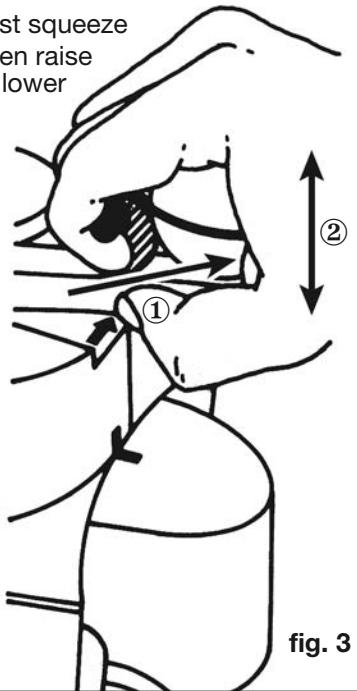
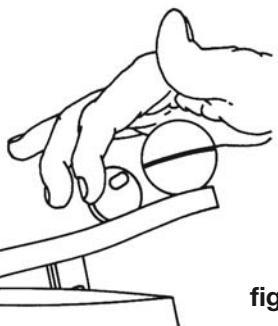
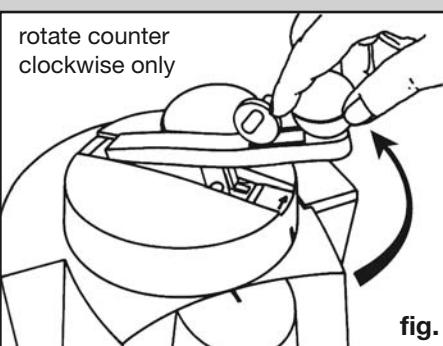

fig. 3
fig. 4
fig. 6
- When unpacking your Capresso "Ultima" the lever (fig. 1; #3) is in the locked position (see fig. 2). To unlock and raise the lever first squeeze the handle bar towards the knob (see fig. 3), then lift the lever upwards and release the handle bar (see fig. 4) Now you can rotate the carousel counter clockwise (see fig. 6).
- b. The carousel only turns counter clock wise (see fig. 6)
- d. To move the lever up or down you must always first squeeze and hold the handle bar then pull the lever up or push it down (see fig. 7). Then release the handle bar. The best way to work the handle bar is to place the palm of your hand on top of the knob and then squeeze the handle bar with two fingers towards the knob (see fig. 4 and fig. 3)
- e. When the lever is raised you can turn the carousel counter clockwise indefinitely. Just hold the knob and turn the carousel (see fig. 6)